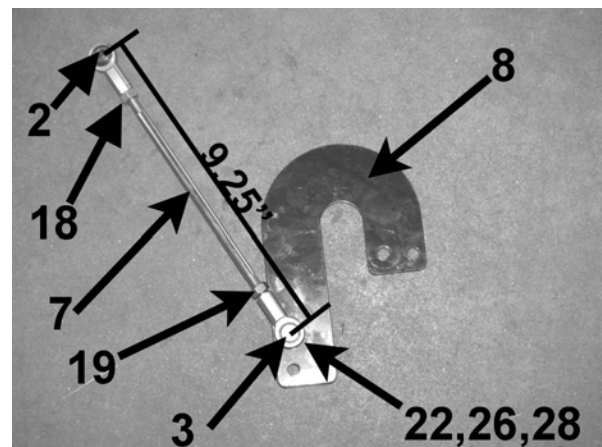

Figure 6
6. Assemble nut **18** and rod end **2** on one end of rod **7**. Install LH nut **19** and LH rod end **3** on other end of rod **7**. Tighten lock nuts with the rod ends parallel to each other approximately 9.25" apart from center of rod end. Assemble one end onto the Hand Control Flat **8** using one bolt **22**, one washer **26**, and one nut **28**. Use the top hole on Hand Control Flat if the foot plate is in the lowest position. Use the bottom hole if foot plate is in the middle position. **(Figure 6)**